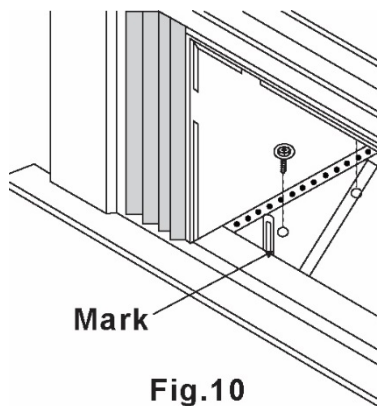

Fig.10
1. Hold each support bracket against the outside of the window sill and tighten to the bottom of the cabinet as shown in Figure 10.